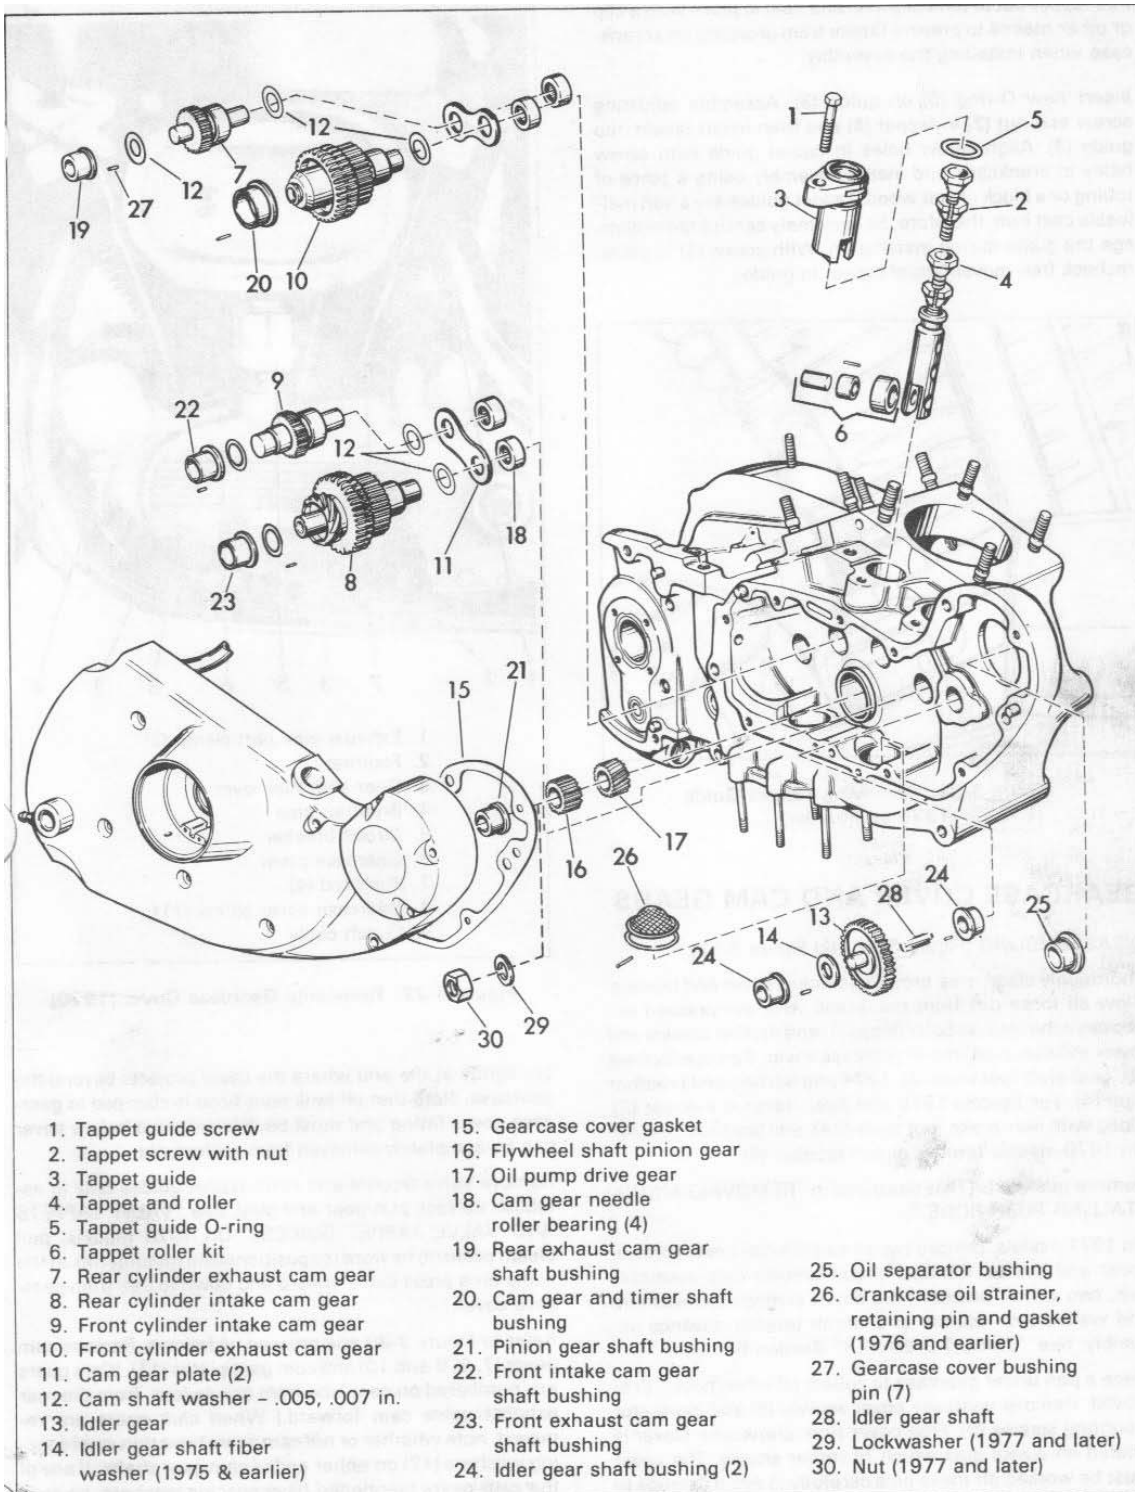

Figure 3-30. Gearcase and Tappet - Exploded View
#### DISASSEMBLING (Figure 3-30)
#### CLEANING AND INSPECTING (Figure 3-30)
Discard O-ring (5, Figure 3-30) and replace with a new one.
#### ASSEMBLING (Figure 3-30)
Refer to Figure 3-30 and proceed as follows. Remove cam gears (7, 8, 9 and 10) and cam gear plates (11). (Cam gears are numbered on cam lobe from one to four, from the rear exhaust valve cam forward.) When cam gears are removed, note whether or not cam gears have thin steel spacing washers (12) on either end of cam gear shafts. If any of the cam gears mentioned have spacing washers, be sure the same ones are used on each shaft when reassembling if the same cam gears and case cover are used again.
#### DETERMINING CORRECT CAM GEAR END PLAY (Figure 3-30)
On 1977 and later models, install pinion gear on shaft with timing marks aligned. Install lockwasher (29, Figure 3-30) and nut (30, Figure 3-30) and tighten to 50 ft-lbs torque.
Install plates (11, Figure 3-30) in case recess with beveled side of holes for cam shaft facing outward toward cam.